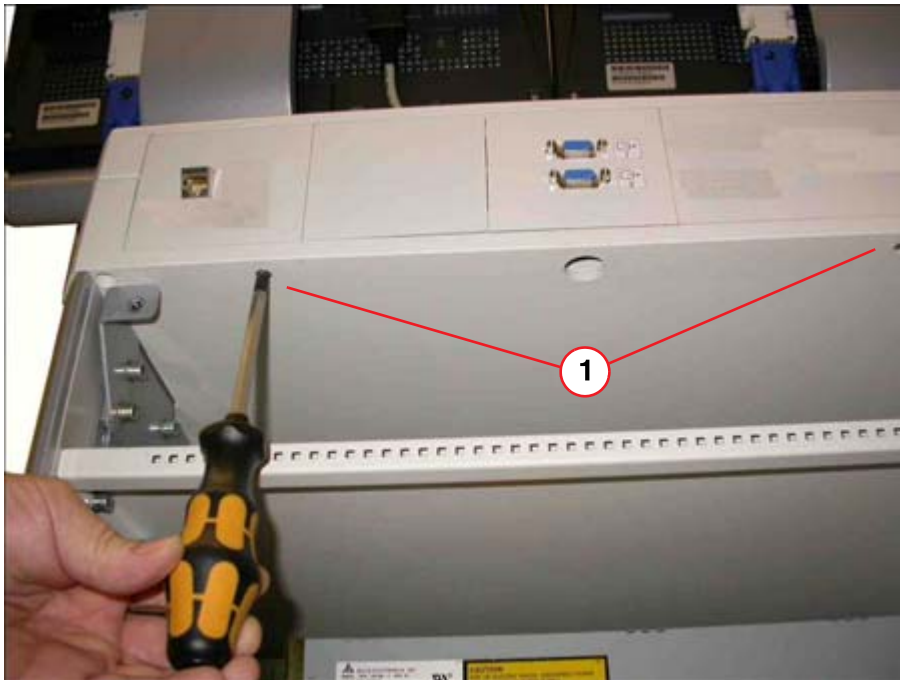

Fig. 5: Interface terminal monitor trolley
- Remove the interface terminal. Do so by loosening the two screws 1/Fig. 5.
- Mount the dummy plates and the cover plate with the two VGA sockets (included in accessory kit) as shown in Fig. 4 and Fig. 5. See 3/Fig. 4, 4/Fig. 4, 5/Fig. 4 and 6/Fig. 4.
- Reinstall the interface terminal and secure it with the screws. See Fig. 5.